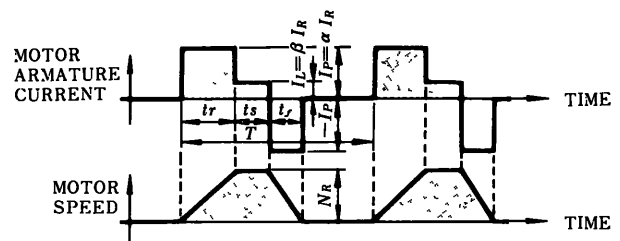

Fig 3.3 Timing Chart of Motor Armature Current and Speed
3.4.1 When the Motor repeats Rated-speed Operation and being at Standstill (Fig. 3.3)